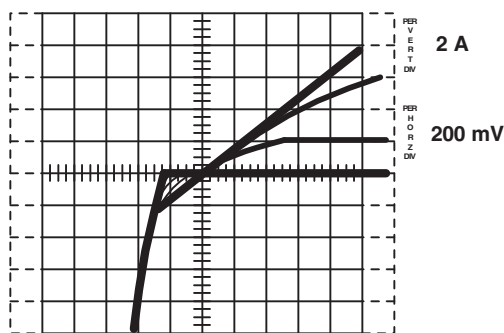
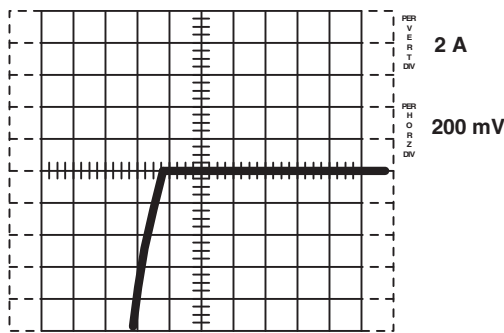

Fig. 10 - Operation in first and third quadrant (synchronous rectification)
Fig. 11 - Operation in first and third quadrant without gate drive
3. The device is connected using the **left/right** switch. The **variable collector supply** voltage is increased to obtain the required peak value of I_D . Beware of device heating. Figure 10 shows the trace obtained with the IRF630. To obtain the reverse characteristics of the diode alone, invert the step polarity. The FET is inoperative, and the display will resemble that shown in figure 11. The step polarity should also be inverted to obtain the composite characteristics of p-channel devices.